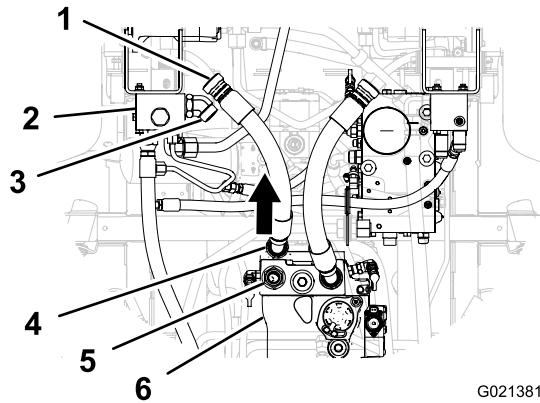

Figure 17
2. Remove the 45° fitting of the pressure hose from the straight fitting in the hydraulic pump (Figure 17).